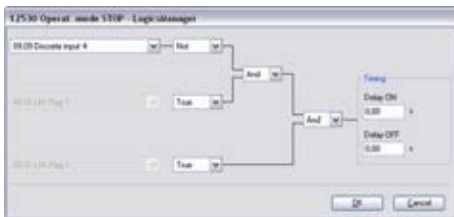

Fig. 157: LogicsManager function "Operat. mode STOP"
- ➔ The LogicsManager function "Operat. mode STOP" (parameter 12530 ↪ p. 254) can be configured as shown in (Fig. 157).